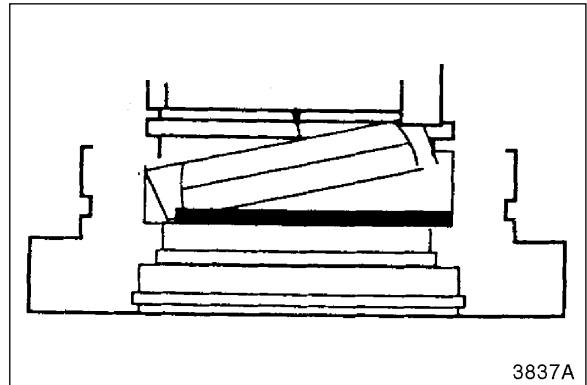

Figure 18
4. Carefully push down on other side of U-packing until entire U-packing is seated in its groove. See Figure 18.